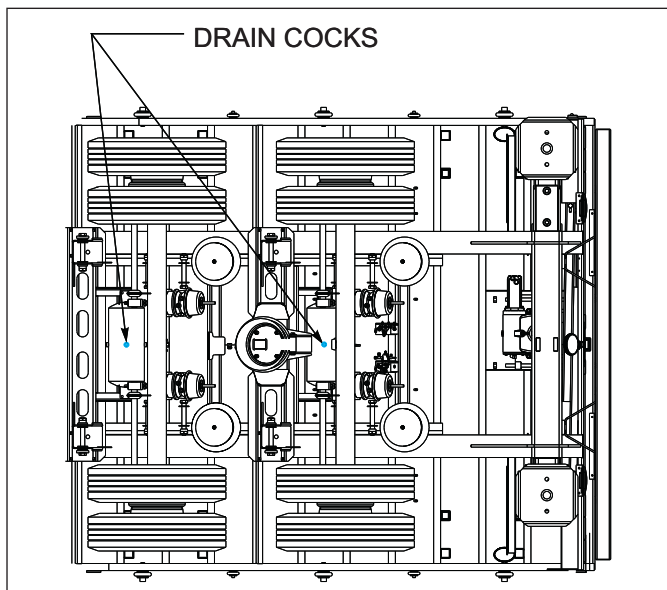

Figure 4-15: Drain Cock Locations
4. Drain air reservoir daily. A drain cock on the bottom of each air reservoir vents the tank to drain collected water and oil. If held open, air pressure in the tanks is relieved, causing the emergency or parking brakes to be applied (*See Figure 4-15.*)